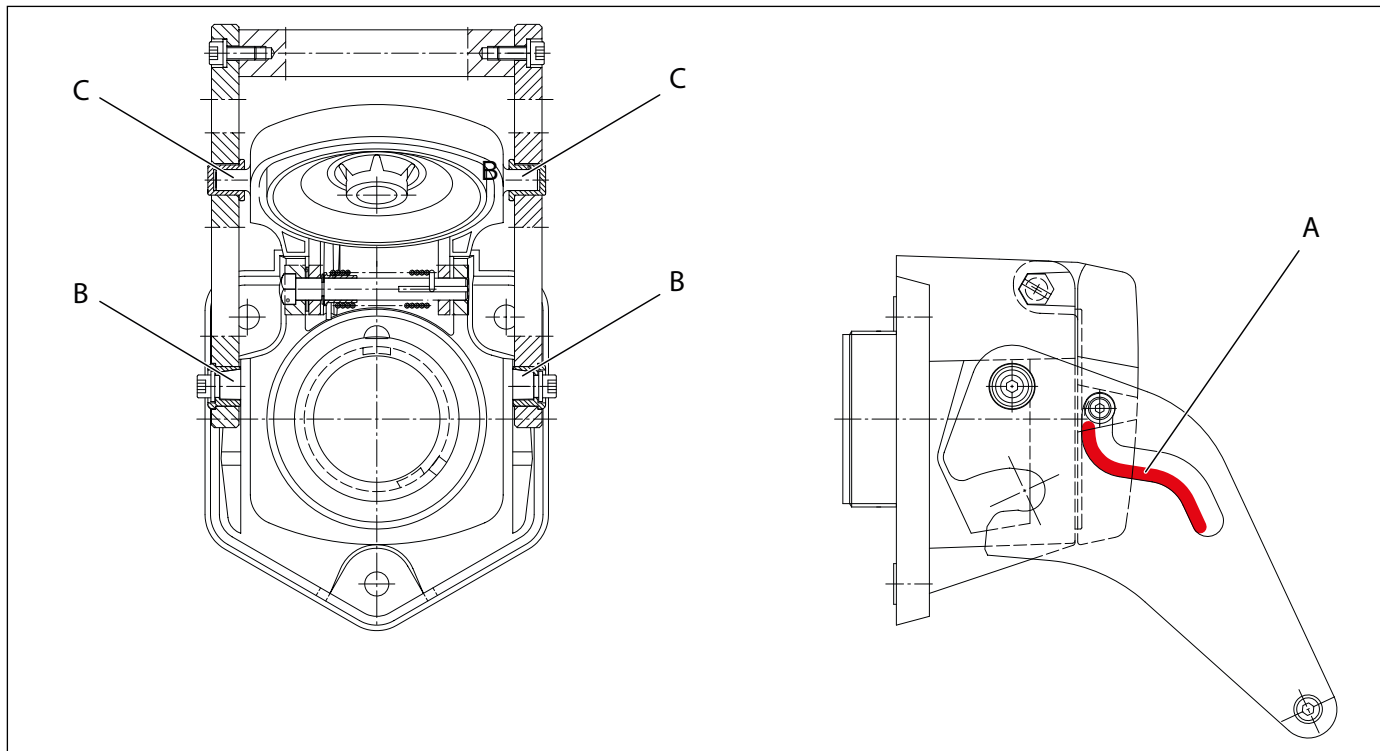

Fig. 23: Lubrication points on the socket lid
1. Grease the red marked area (A) of the locking link shown in Fig. 23.
2. Grease bearing (B) and bush (C).